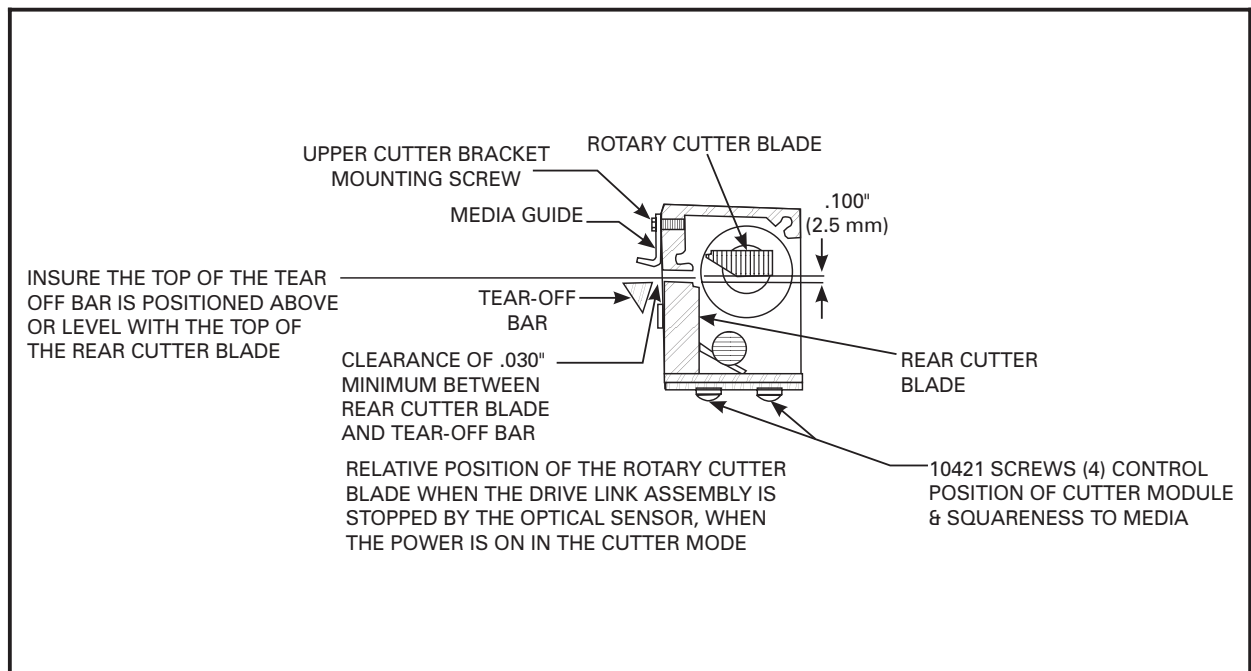

Figure 5.24 Cutter Mechanical Assembly Positioning
4. Refer to Figure 5.24. **Only after the preceeding step**, hold the Upper Drive Arm in position and adjust the Rotary Cutter Blade so that the gap between its cutting edge on the left end and the cutting edge of the Rear Cutter Blade is approximately a .100" (2.5mm) as gauged by eye.